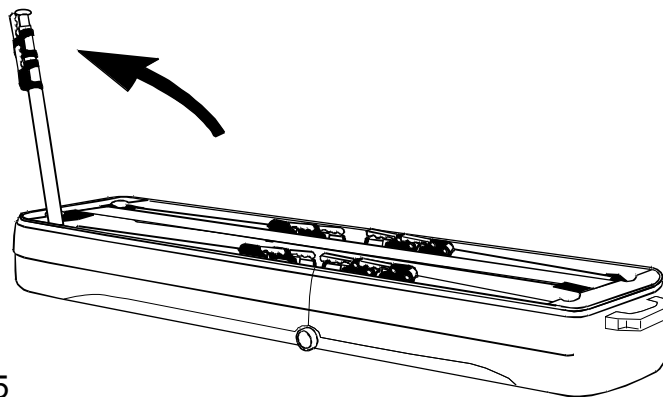

Fig 5
4. Grip a blue leg handle and disengage a leg from its clip. Unfold the leg to an upright position until it engages with the retaining catch at the end of the track (Fig 5).